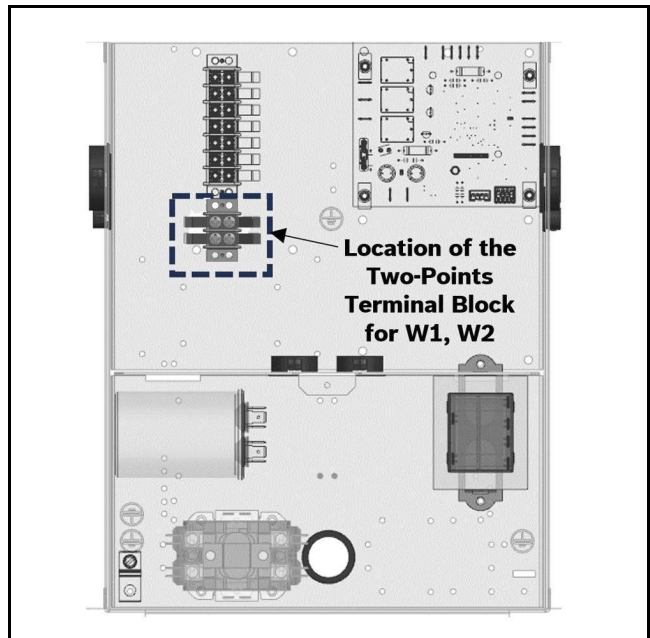

Fig. 44 Location of the Two-Point Terminal Block
- Install the two-points terminal block provided with the electric heat kit (→Refer to Fig. 1.) using two screws to attach it to the main unit control box in the location shown in →Fig. 44.